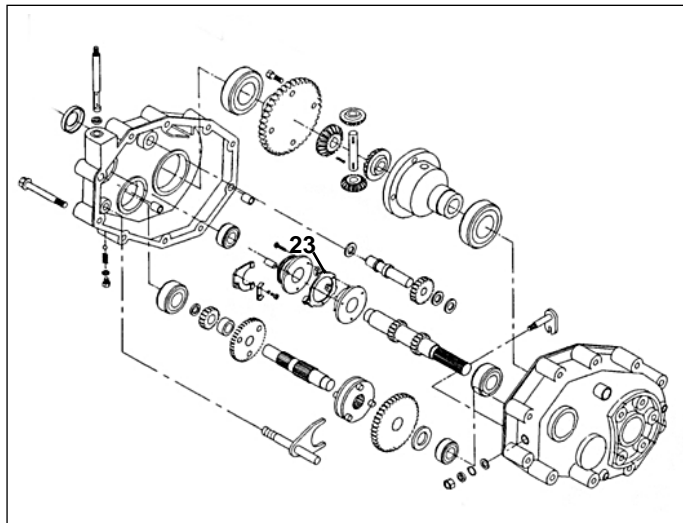

Figure 15 - Governor Components
2. The internal centrifugal weights (#23) are spun outwards as the vehicle accelerates. See Figure 15. This movement causes the governor shaft to rotate counterclockwise, pulling the governor arm forward. As the governor arm moves forward, the carburetor throttle closes preventing the vehicle from exceeding the top governed speed.